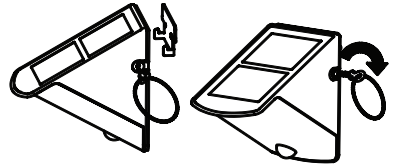

Fig. 3
3. Hang the light on the mounting plate and lock it by turning the key. Remove the key and keep it for future use (Fig. 3).